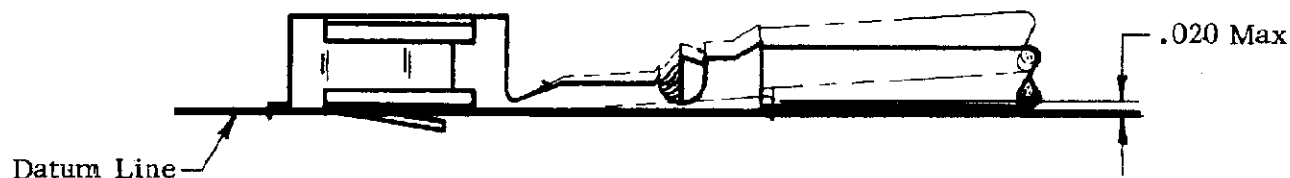

Figure 3
- (1) The contact, including the cutoff tab and burr shall not be bent below the datum line or more than .020 above the datum line as shown in Figure 3.